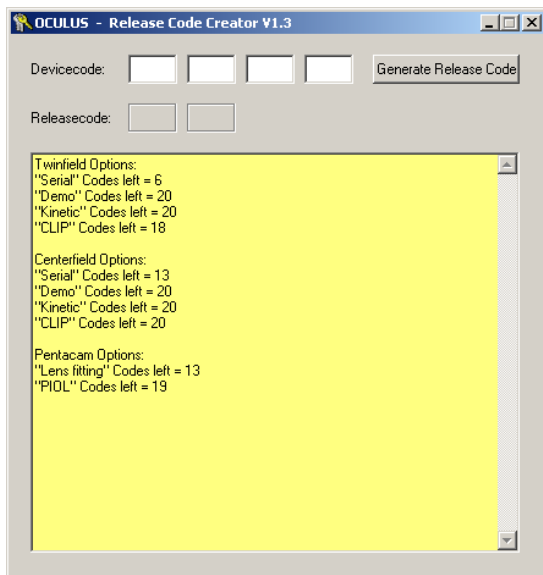

Figure 33, ReleaseCreatorSoftware
- start the ReleaseCodeCreator.exe (software). The window shown below in Figure 33 opens.